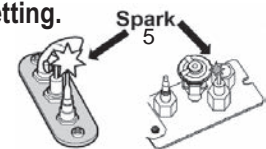

Fig 3
2. SET ON/OFF SWITCH (1) TO "OFF" POSITION.
- Wait five (5) minutes to clear out any gas, then smell for gas, including near the floor. If you smell gas, STOP! Follow "B" in the safety information above on this label. If you don't smell gas, go to the next step.
3. AUTOMATIC IGNITION (fig. 1): Locate the pilot (fig 3.) inside of firebox.
- ON/OFF switch (1) in ON position, MAN-knob (2) in ON position; set Flame Adjustment knob (3) to lowest setting (∩)
- When the pilot is lit, the Flame Adjustment knob (3) will automatically rotate to the highest setting.
4. MANUAL IGNITION (fig. 2): With the window off, locate pilot (fig. 3) inside firebox;
- ON/OFF switch (1) in ON position, MAN-knob (2) in MAN position;
- Set Flame Adjustment knob (3) to the lowest setting (∩);
- Push down the metallic core (4) with a pen or similar instrument; this will establish the pilot gas flow;
- Light gas at the pilot (5) with a match;
- Continue holding down metal core (4) for about 10 seconds; after release, pilot should remain lit;
- If the pilot will not stay lit after several tries, turn the gas control knob (3) to "OFF" (∩) and call your local service technician or gas supplier.